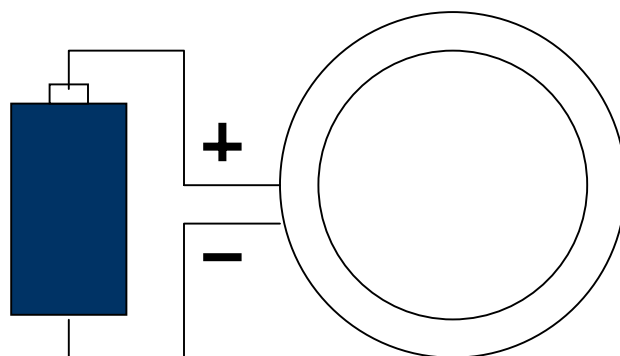

fig 1 Speaker Polarity Verification
9. Always take care to connect the speaker wire runs in phase. An easy method verify polarity follows. Connect a 1.5V battery across the speaker wire at the amplifier location (see fig 1). Have someone observe if the SR62s cone moves in or out. If the cone goes out (toward the observer) the + wire is now connected to the + terminal of the battery and that wire should be connected to the + terminal of the amplifier. Other speaker(s) should be tested and connected in a similar manner.